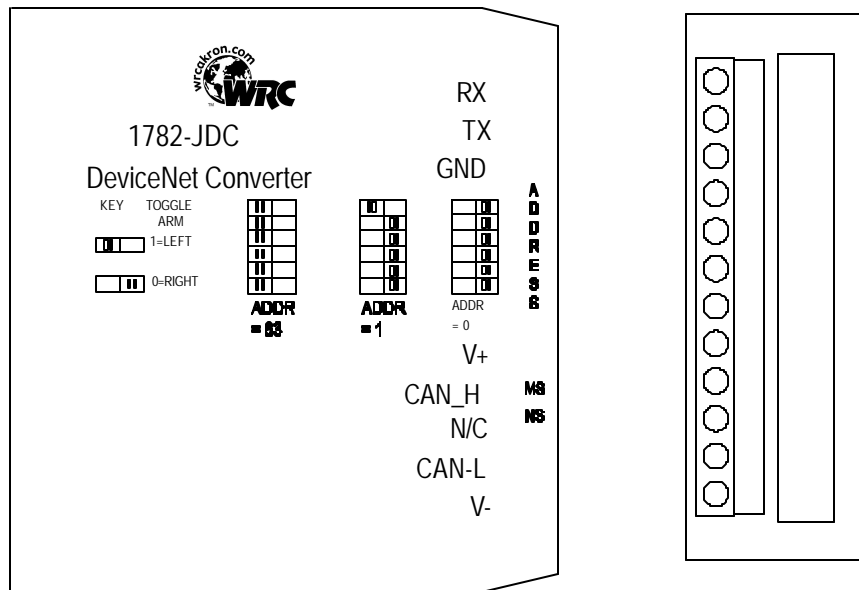

Figure 4-1 1782-JDC Outline Drawing
2. Connect the other end of the cable to the JDC using the 3-point terminal plug provided. Note the terminal markings on the JDC case. See Figure 4-1.